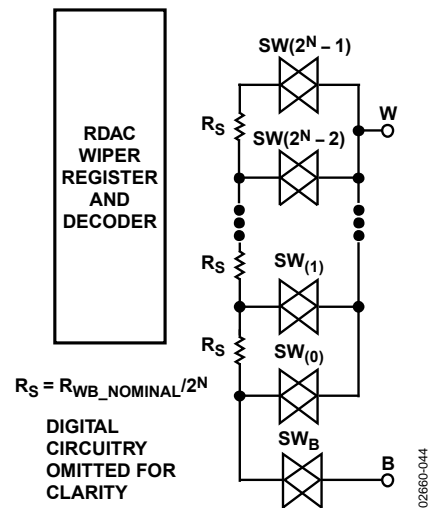

Figure 32. Equivalent RDAC Structure
The RDAC contains multiple strings of equal resistor segments with an array of analog switches that acts as the wiper connection. The number of positions is the resolution of the device. The ADN2850 has 1024 connection points, allowing it to provide better than 0.1% setability resolution. Figure 32 shows an equivalent structure of the connections among the three terminals of the RDAC. The SWB is always on, while the switches, SW(0) to SW(2N - 1), are on one at a time, depending on the resistance position decoded from the data bits. Because the switch is not ideal, there is a 30  $\Omega$  wiper resistance, RW. Wiper resistance is a function of supply voltage and temperature. The lower the supply voltage or the higher the temperature, the higher the resulting wiper resistance. Users should be aware of the wiper resistance dynamics, if accurate prediction of the output resistance is needed.
The 10-bit data-word in the RDAC latch is decoded to select one of the 1024 possible settings. The following description provides the calculation of resistance,  $R_{WB}$ , at different codes of a 25 kΩ part. The first connection of the wiper starts at Terminal B for Data 0x000.  $R_{WB}(0)$  is 30 Ω because of the wiper resistance, and it is independent of the nominal resistance. The second connection is the first tap point where  $R_{WB}(1)$  becomes 24.4 Ω + 30 Ω = 54.4 Ω for Data 0x001. The third connection is the next tap point representing  $R_{WB}(2)$  = 48.8 Ω + 30 Ω = 78.8 Ω for Data 0x002, and so on. Each LSB data value increase moves the wiper up the resistor ladder until the last tap point is reached at  $R_{WB}(1023)$  = 25006 Ω. See Figure 32 for a simplified diagram of the equivalent RDAC circuit.